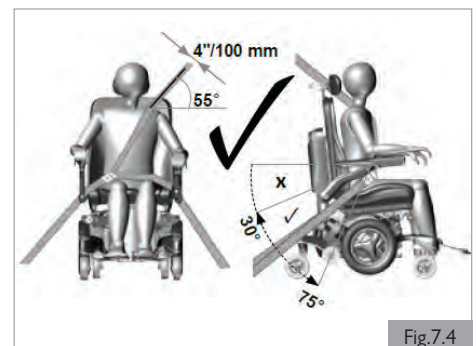
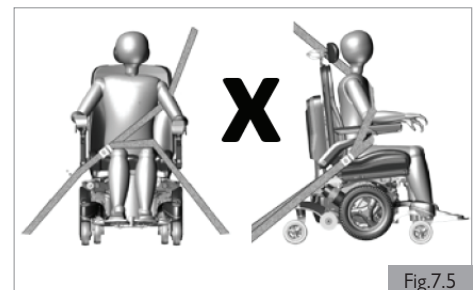

Fig.7.4
Fig.7.5
3. Restraints should be mounted to the appropriate vehicle pillar and should not be held away from the body by wheelchair components such as armrest or wheels (Fig. 7.5).
2. A steeper (greater) angle within the preferred zone is desirable i.e. closer to, but never exceeding 75° degrees (Fig. 7.4).
- a. The upper torso restraint belt must fit over the shoulder and across the chest as illustrated (Fig. 7.4). Restraint belts must be adjusted as tightly as possible consistent with user comfort. Do not fit restraint belt as shown in Fig. 7.5.